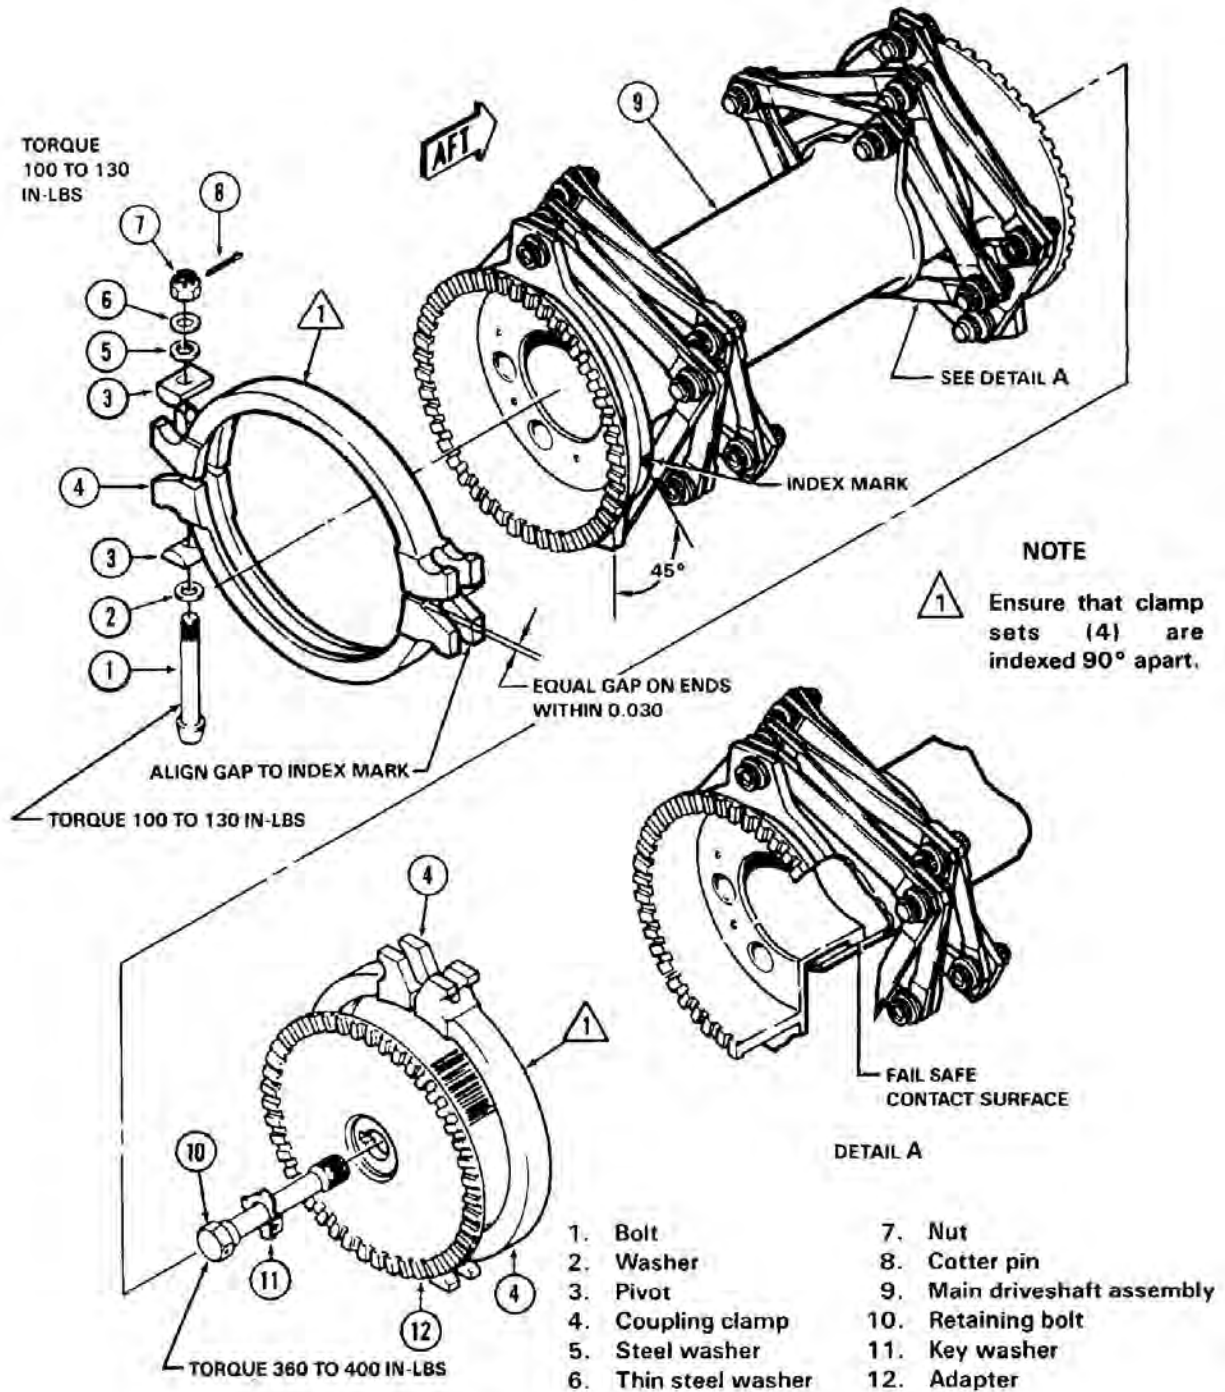

Figure 63-3. Main Driveshaft Assembly (204-040-433-101)
63.2.1.1.2 Remove coupling clamps (4, Figure 63-3) at each end of driveshaft, keep clamps together as matched sets after removal.
63.2.1.3.1 Inspect internal fail-safe diameters for evidence of contact (detail A, Figure 63-3). If contact is noticed, driveshaft must be replaced.
63.2.1.4.2 Install coupling clamps (4, Figure 63-3) to secure both ends of shaft as follows:
63.2.1.4.2.2 Place washer (2, Figure 63-3) on bolt (1) with chamfer against head. Install bolt, with head in direction of shaft rotation, through pivots (3) and clamp ends. Install steel washer (5), thin steel washer (6), and nut (7).
63.2.2.1.1 To remove adapter (12, Figure 63-3):
63.2.2.1.1.1 Cut lockwire, bend tang on key washer (11, Figure 63-3) and remove retaining bolt (10).